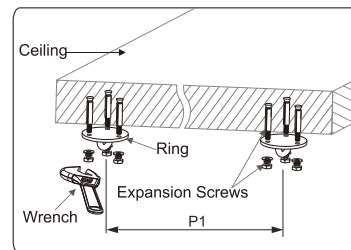

Figure 1
1. Fix the rings (not accessories) on the ceiling according to the distance P1 between two hooks (note: make sure each of rings can endure at least 200kg) (figure 1).